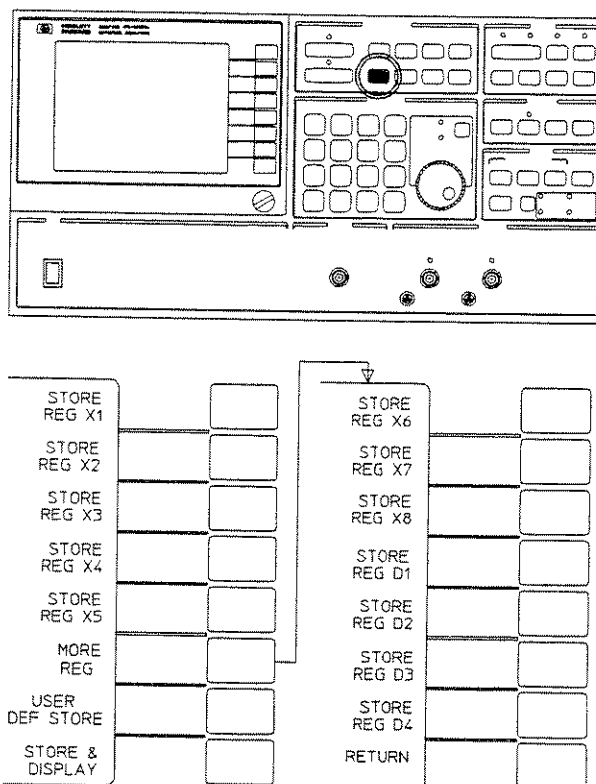

Figure 4-51
**STORE DATA** is a hardkey in the DISPLAY FORMAT front panel section used to display the menu of softkeys shown in figure 4-51. These softkeys may be used to store a trace as it is specified by the [ **INPUT** ] definition, store a trace defined by the user, or store and compare. The trace stored is independent of the active display function. The data stored is complex trace data identical to what is stored in trace memory registers R and A (and B for Option 002) when a measurement is taken.